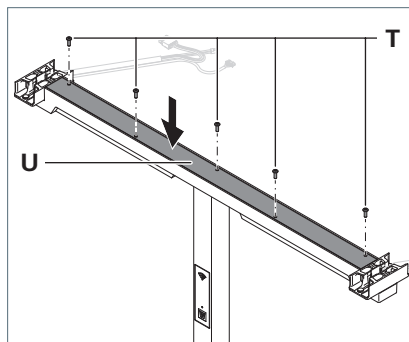

Fig. 11: Crossbar- fitting the cover.
1. Place the cover **U** on the crossbar, see Fig. 11.